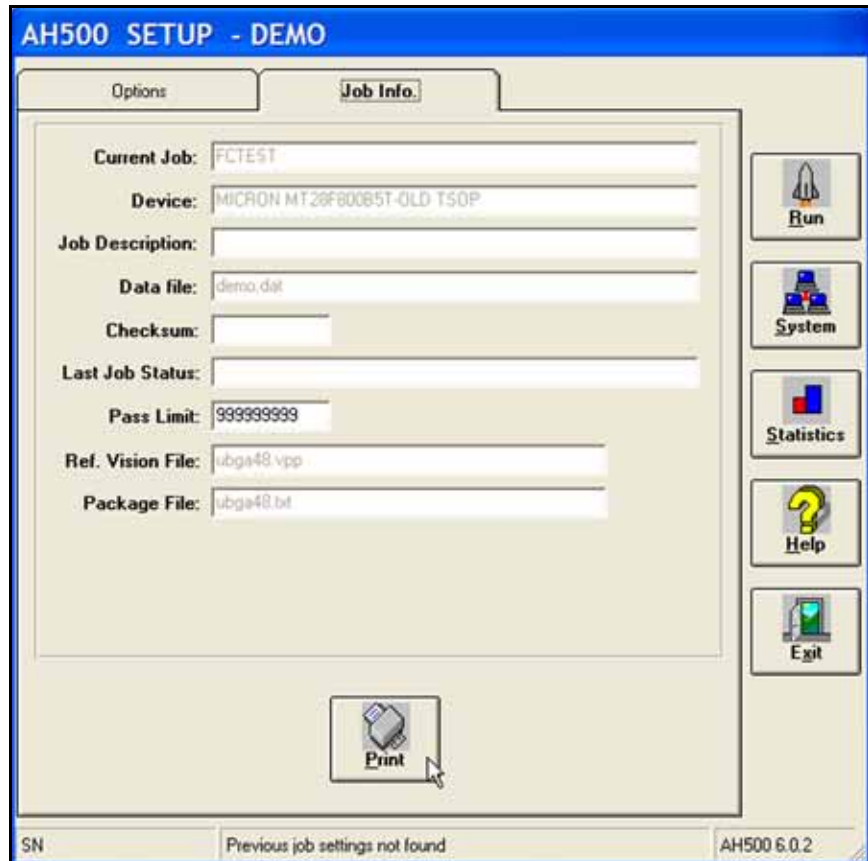

Figure 3-21: The Job Info Tab is a read-only review of information, with the exception of the Pass Limit field, which is editable.
- 2b. Verify that all the information displayed for this job is accurate. See Figure 3-21 below.
**Note:** If you have already started AH500 and do not know the correct Socket Adapter Part Number for your device, you can find it two ways without having to exit AH500: A— On our Web site: 1) Click Support > Device > Search for Support, 2) Type your device PN into Device PN field, 3) Click Begin Search for Devices. See the PNs in the right, results column; and method B— If you already have a Vision or Package file and you've named it after the Socket Adapter, see the last two fields of the Setup > Job Info Window (refer Figure 3-21).